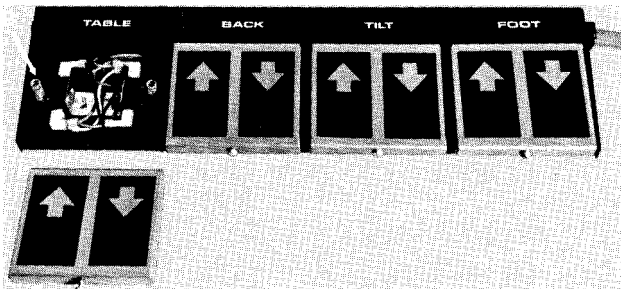

Fig. 34
- 1) Removing the screw holding the foot pedal cover in place, (Item A, Fig. 34).
If when the foot pedal is depressed the switch does not actuate, the "stops" (Item B, Fig. 34) must be adjusted down.